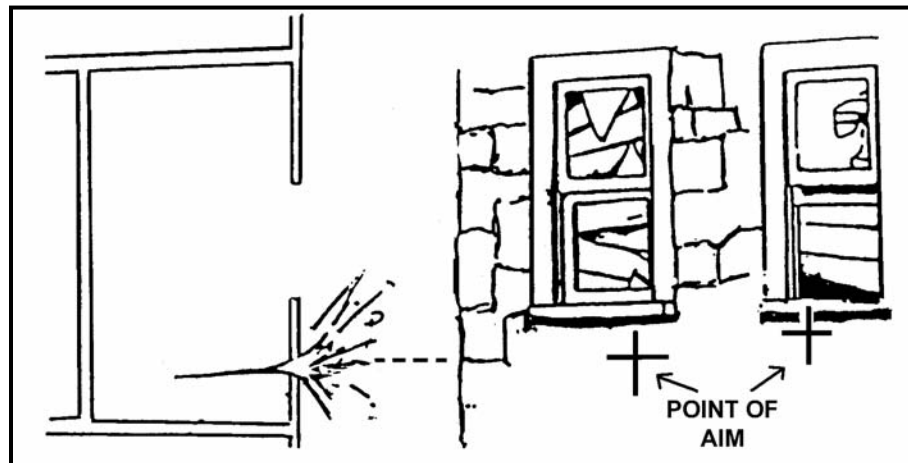

Figure 7-2. Point of aim for a shaped-charge weapon against a masonry structure.
(1) Light and medium recoilless weapons, with the exception of the SMAW-D, employ shaped-charge warheads. As a result, the hole they punch into walls is often too small to use as a loophole. The fragmentation and spall these weapons produce are limited. Normally, shaped-charge warheads do not neutralize enemy soldiers behind walls unless they are located directly in line with the point of impact.
(2) Against structures, shaped-charge weapons should be aimed about 6 inches below or to the side of a firing aperture (Figure 7-2), which enhances the probability of killing the enemy behind the wall. A round passing through a window wastes much of its energy on the back wall. Since these shaped-charge rounds lack the wire wrapping of the 40-mm HEDP, they burst into few fragments and are often ineffective casualty producers.